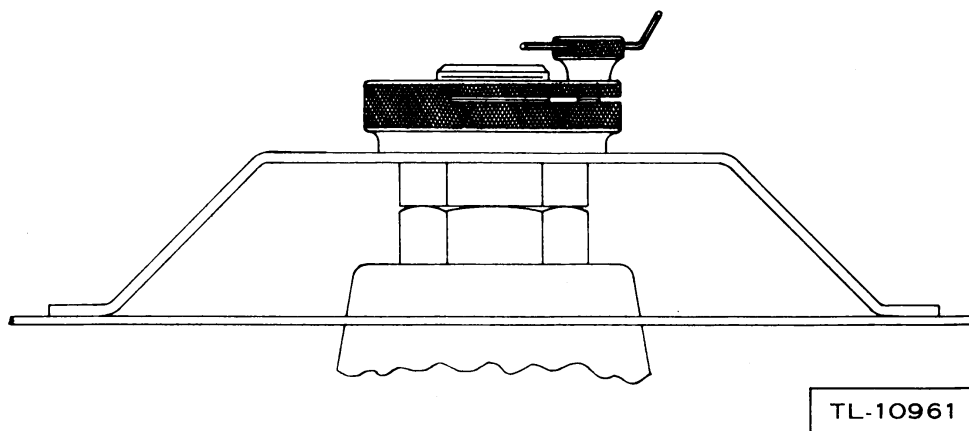

Figure 24. Assembly of azimuth scale.
(1) Turn the door handle on each section to free the three shelter sides and door sections; then slide each section out of Chest CH-135-A. The three sections are identical and any one may be installed first. Slide the side stencilled TOWER TR-25-A SIDE into the groove provided in the underside of the roof and at the edge of the floor. The smooth surface must be on the outside and the windows near the top. Repeat this procedure to install the remaining two side sections.
(2) Close the three doors so that they are latched at the top and bottom. Tighten the wingnuts on the inner side of the roof, after the ends of the hookbolts have been engaged in the holes in the top of each shelter side.
(3) With the three doors closed and latched at top and bottom, tighten the eyebolts in each of the clamp rails along three sides of the floor; also tighten the six eyebolts which secure the roof to the tower. Every eyebolt in the entire assembly should now be checked for tightness and, when necessary, tightened securely. That is, they are turned as far as possible without exerting extra pressure. **IF THE BOLTS ARE TIGHTENED BEYOND THIS POINT, THEIR THREADS OR THE THREADS IN THE TAPPED HOLES MAY BE STRIPPED.**
g. Azimuth Scale M-346-A (fig. 24). Remove the azimuth scale from Chest CH-128-A and place the scale over the mounting spindle that projects through the bottom of the receiver chest. It is necessary to angle this azimuth scale under the battery compartment in order to locate it on the spindle. After the scale is in position, secure it with the knurled nut provided for this purpose. This knurled nut is stored in Chest